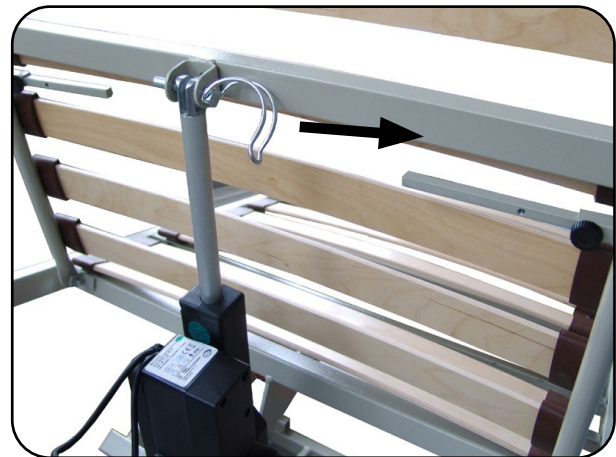

Fig. 8.7.01 – Tube clip for emergency lowering
2. The second user then folds down the safety bracket of the tube clip and pulls it out (Fig. 8.7.01). (The drive is disconnected and swivels downwards so it is out of the way. The back part is now no longer held in place by the drive.)